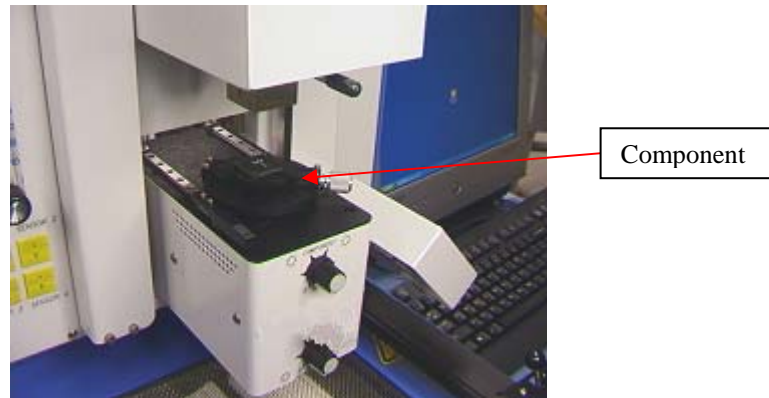

Figure 18
- viii. Place the component in the mounting plate on top of the camera housing. (Figure 18) The component needs to be oriented the same as the nozzle.